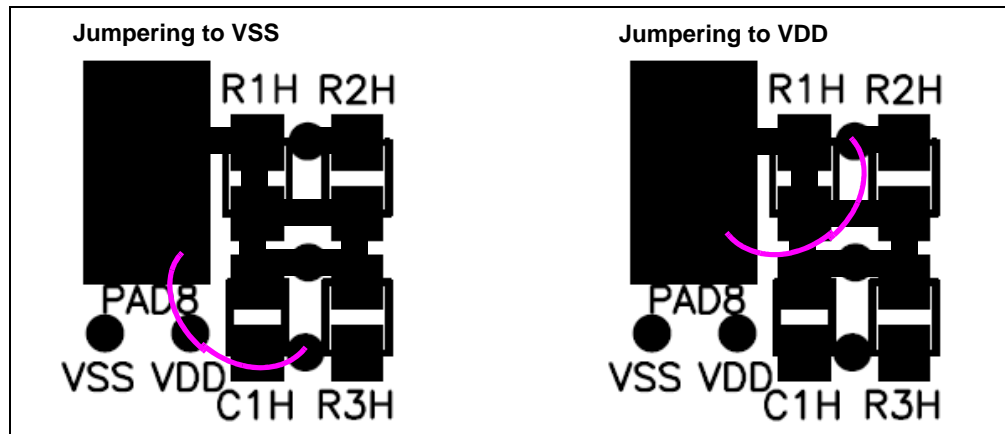

FIGURE D-3: Alternate Jumpering the PCB pad to either VSS or VDD.
1. VDD and VSS vias near each pad are No Connects (they should have been connected to the appropriate power or ground plane). See Figure D-1 shows the location of these vias that are No Connects. Figure D-3 shows alternate connections that can be made.
Figure D-3 shows how the pad can be connected to either the V_{DD} or V_{SS} plane of the PCB.